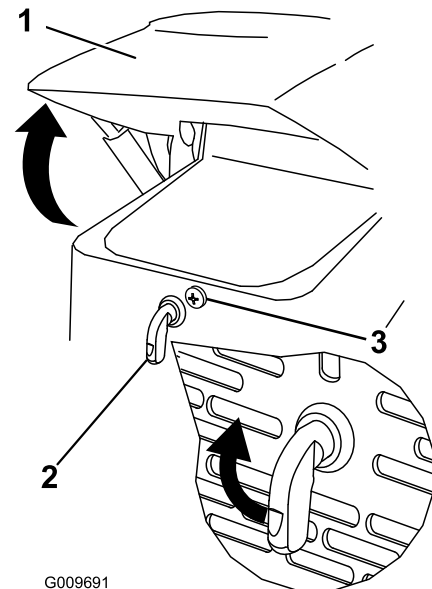

Figure 24
1. Loosen the hood-locking screw (Figure 24)
2. Turn the hood latch clockwise (Figure 24).
3. Swing the hood up (Figure 24).
3. Tighten the hood-locking screw to secure the latch (Figure 24).